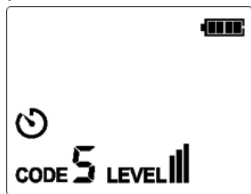

Figure 9.1.2a
2. The transmitter is in power-on state by default (Transmission is not started by the transmitter), short press the START/STOP button to stop transmission when transmission is started by the transmitter. When the LEVEL button is short pressed, the LEVEL symbol flashes for 0.5s, as shown in Figure 9.1.2a.